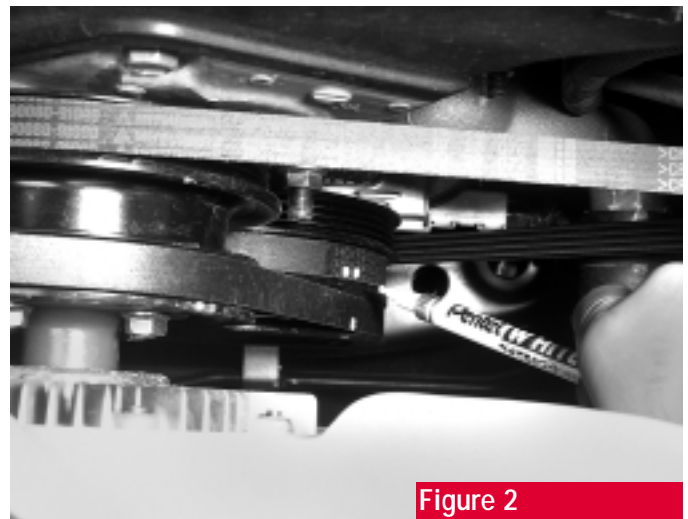

Figure 2
2. With tape or a permanent marker, mark the **forward** edge of the power steering and the air conditioning compressor drive belts (**figure 2**). This will ensure that the belts will be returned to their original positions and that they will rotate in the same direction. If you reverse the direction of rotation, it may cause the belts to fray.